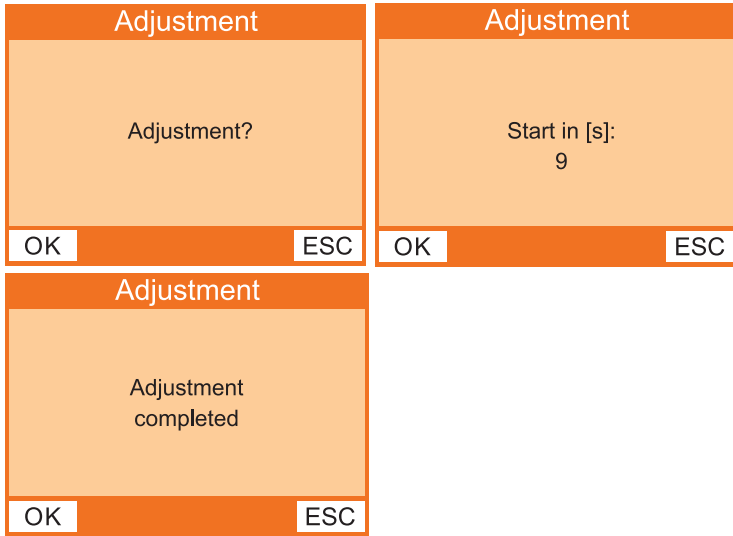

Fig. 22: Adjustment
3. Press the Menu key. The start view of the **Adjustment** process will appear (fig. 22, left image, top).